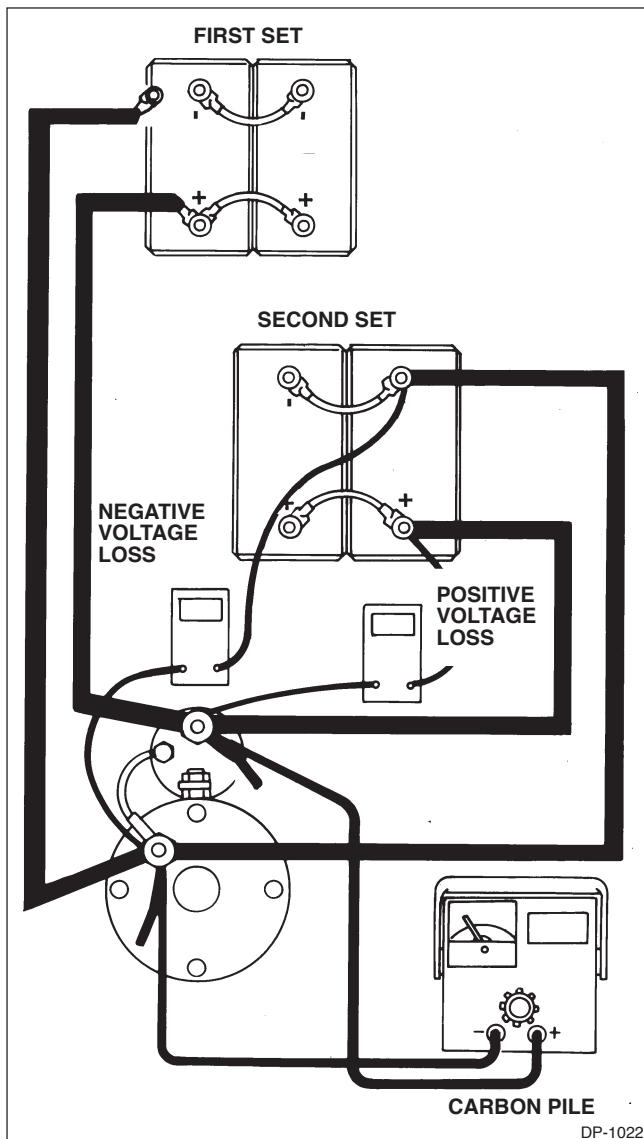

Figure 3-4. Battery Cable Test - Typical Dual Box 12 Volt System
### 3-10. BATTERY CABLE TEST WITH DUAL-BATTERY LOCATIONS (SEE FIGURE 3-4)
**3-11. TEST PROCEDURE** (See Figure 3-4).